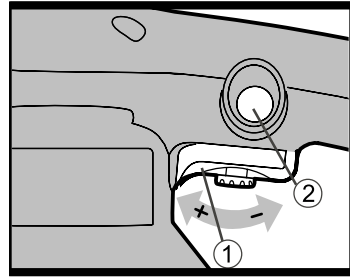

Fig 1
Depress on/off switch (1) then lock on button (2) (See Fig 1), release on/off switch first and lock on button second. Your switch is now locked on for continuous use. To switch off your tool just depress and release the on/off switch.
Adjust the dial to increase or decrease the speed according to the material and sanding sheet specification to be used (also possible during no load operation) (See Fig 1). Avoid prolonged use at very low speed as this may damage your sander's motor.